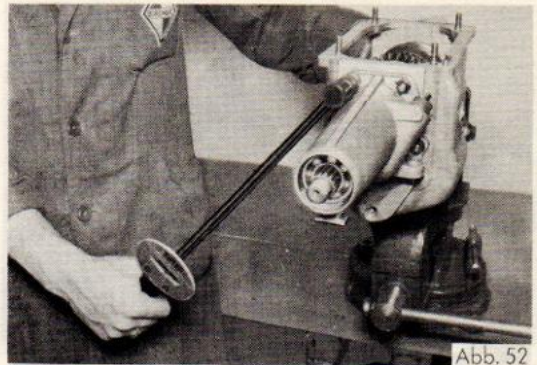

Abb. 52
46. Fit tail housing over mainshaft onto gear-box casing. Screw on nuts with shakeproof washers and tighten to a torque of 23 ft/lb (3.2 m/kg) (Fig.52). Insert countersunk screw and secure with centre-punch.